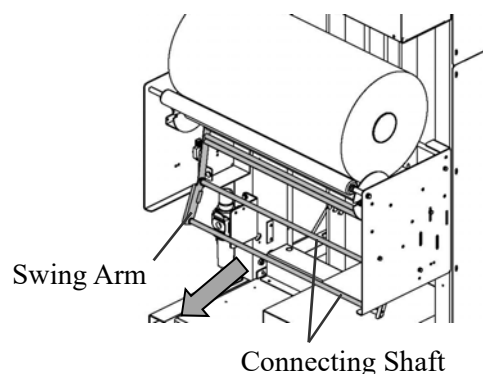

**Fig. 4** (View from over the film stocker)
- ② Locate the film roll correctly on the film stocker by the film guides to align the film to the center of the film stocker.
- ③ Make a clearance of about 1 cm between the film guide and the end of the film roll at each side of the film stocker. (Fig.4)
4. Pull the swing arm under the feed roller a little towards you. The feed roller turns. (Fig.4)